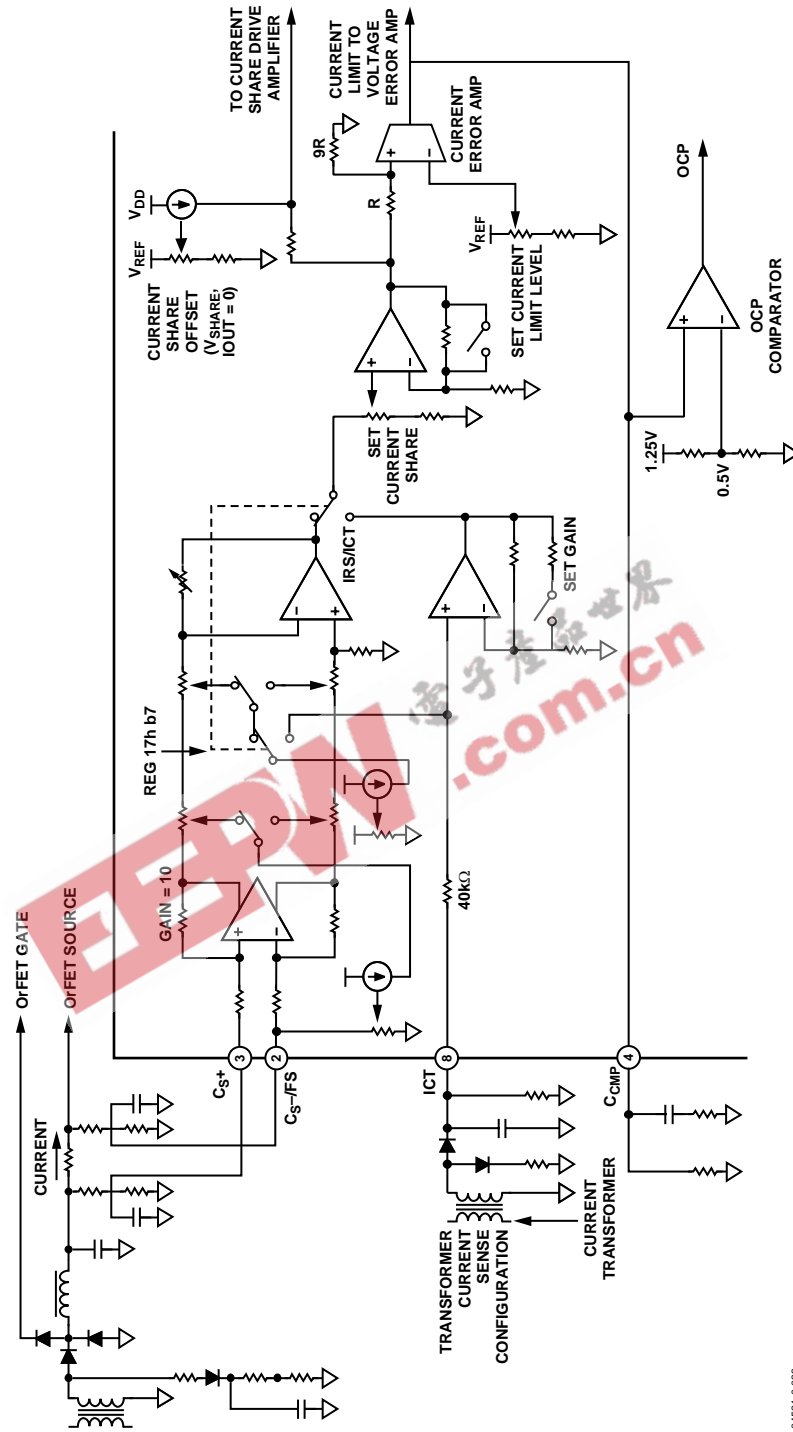

Figure 13. Current Sense
Current is typically sensed by a low value resistor in series with the positive output of the power supply, just before the OrFET or diode. For high voltages (12 V and higher), this resistor is usually placed in the negative load. A pair of closely matched voltage dividers connected to Pins 2 and 3 divide the common-mode voltage down to approximately 2.0 V. The divider ratio must be the same as used in the local and remote voltage sense circuits. Alternatively, current may be sensed by a current transformer (CT) connected to Pin 8. The ADM1041 must be configured via the SMBus to select one or the other. See Figure 13.
This offset cancellation is achieved by sourcing a current through a resistance on the ICT pin. The resistor value is 40 k $\Omega$  and so for 100 mV of offset cancellation a current of 2.5  $\mu$ A is required. It is possible to fine trim this current via Register 15h, Bits 4–0, step size 170 nA. For example, 2.5  $\mu$ A  $\approx$  15  $\times$  170 nA; so the code for Register 15h is decimal 15 or 0Fh. Refer to the Current Transformer parameter in the Specifications table for more details. See Figure 13.
This is a low gain transconductance amplifier that takes its input from one of the calibrated current stages described previously. The amplifier requires only the output pin for loop compensation, which typically consists of a series RC network to common. A trimmable reference provides a wide range of adjustment for the current limit. When the current signal reaches the reference voltage, the output of the error amplifier comes out of saturation and begins to drive a controlled current source. The control threshold is nominally 1.0 V. This current flows through a resistor in series with the trimmed voltage loop signal and thereby attempts to increase the voltage signal above the 1.5 V reference for that loop. The closed voltage loop reacts by reducing the power supply's output voltage and this results in constant current operation. See Figure 13.